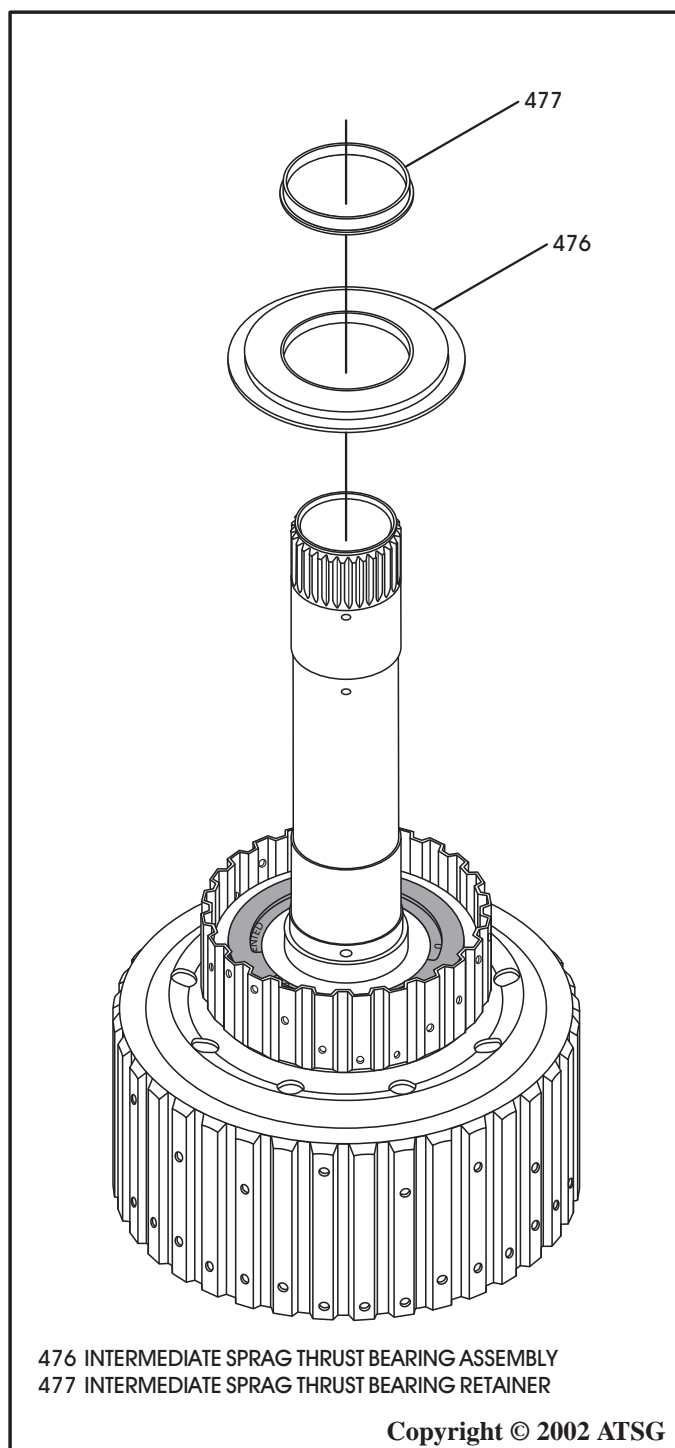

Figure 112
14. Install the intermediate sprag thrust bearing, as shown in Figure 112 with the lip facing up, on top of the thrust washer.
15. Install a "New" retainer (477) on top of thrust bearing, as shown in Figure 112.